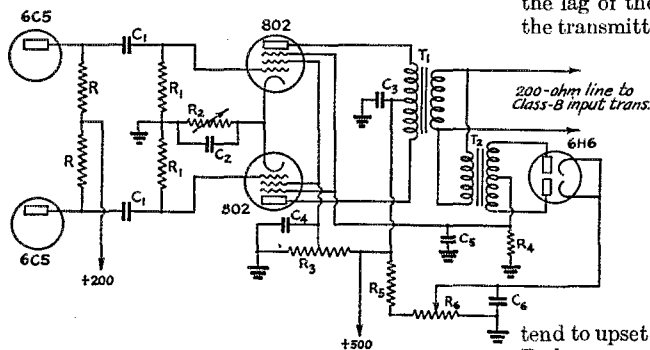

FIG. 1—AMPLITUDE LIMITING CIRCUIT FOR PENTODE SPEECH AMPLIFIERS
**A**UTOMATIC volume compression as a means of preventing overmodulation in 'phone transmitters has been advocated in a number of articles in recent *QST* issues.1 A rather simple and easily-installed system, involving operation only over a single stage, is shown in Fig. 1. It was worked out by M. C. Bartlett, W9JHY, and has proved to be quite satisfactory in practice, since overmodulation is practically impossible once the operating conditions are set. There is no perceptible effect on the speech quality.